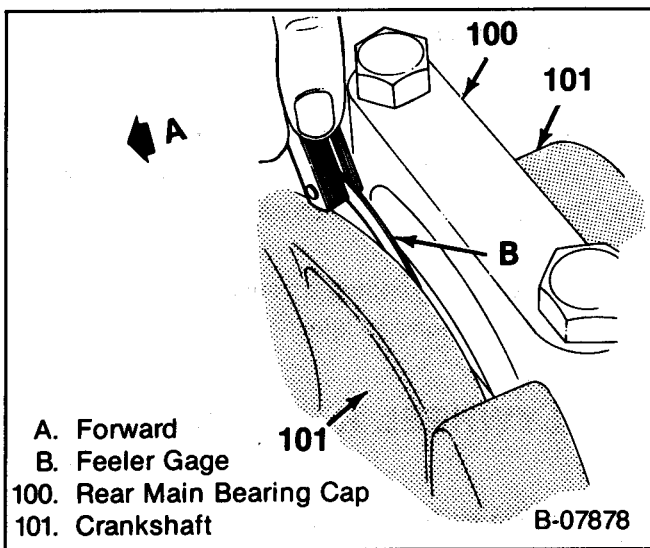

Figure 34—Measuring Crankshaft End Play
- With the crankshaft forced forward, measure at the front end of the rear main bearing with a feeler gage (figure 34). The proper clearance is 0.006–0.010–inch.
- With the crankshaft forced forward, measure at the front end of the rear main bearing with a feeler gage (figure 34). The proper clearance is 0.006–0.010-inch.